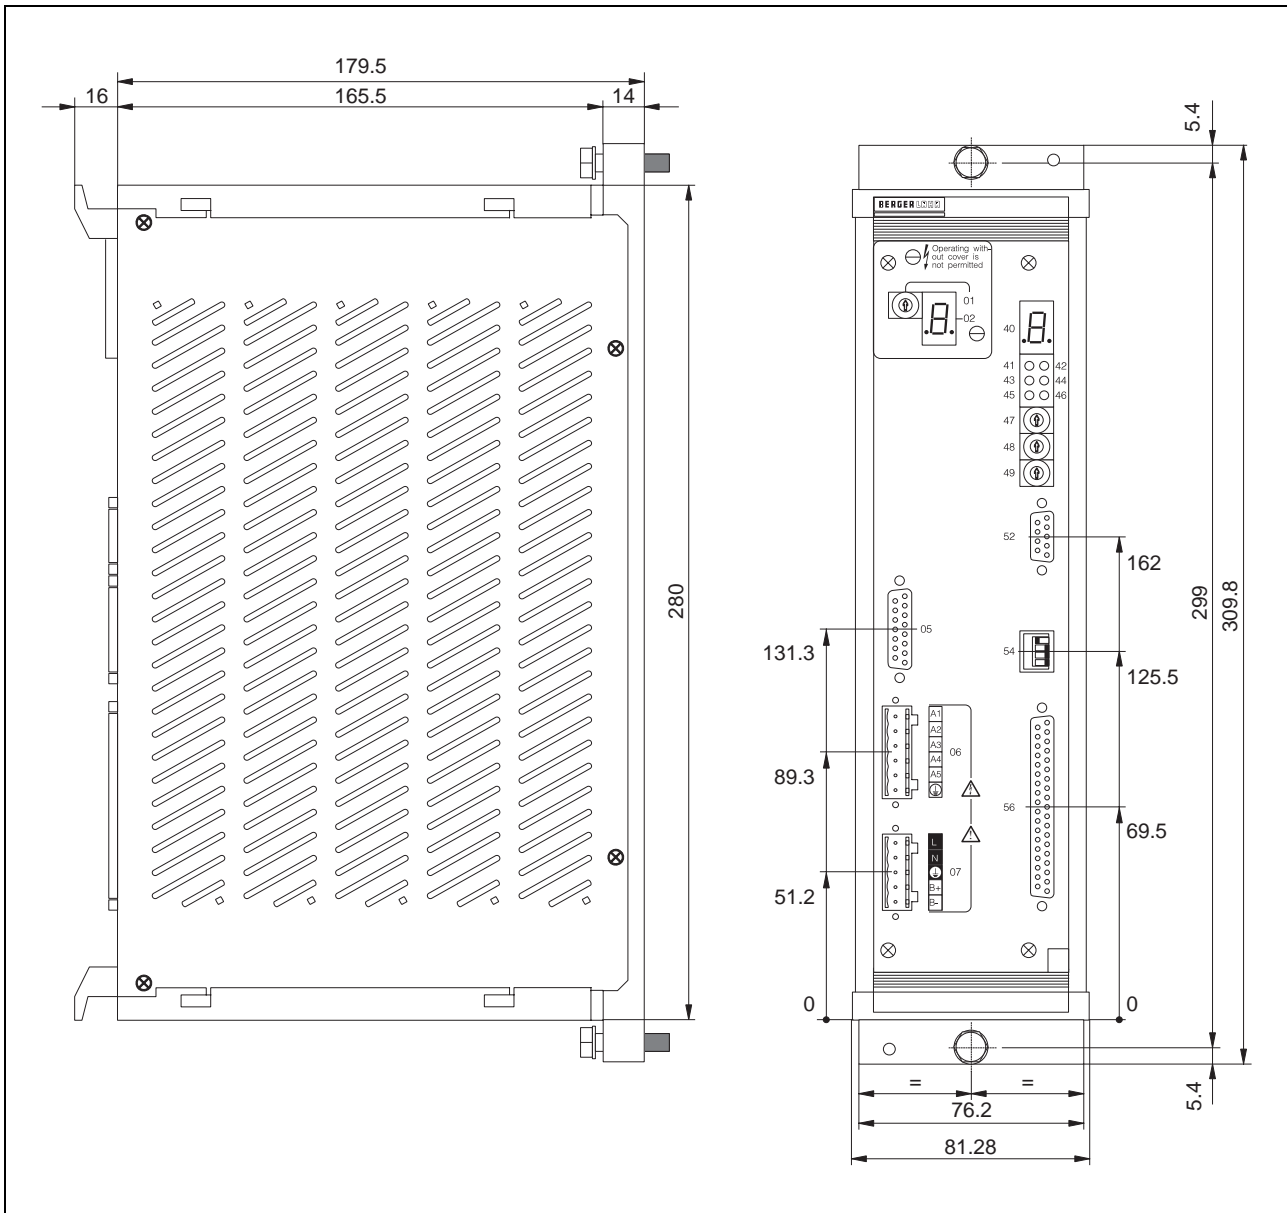

Fig. 1-10 WDP5-118 dimensions
1. Drill two holes in the mounting panel, dimensions see fig. 1-10.